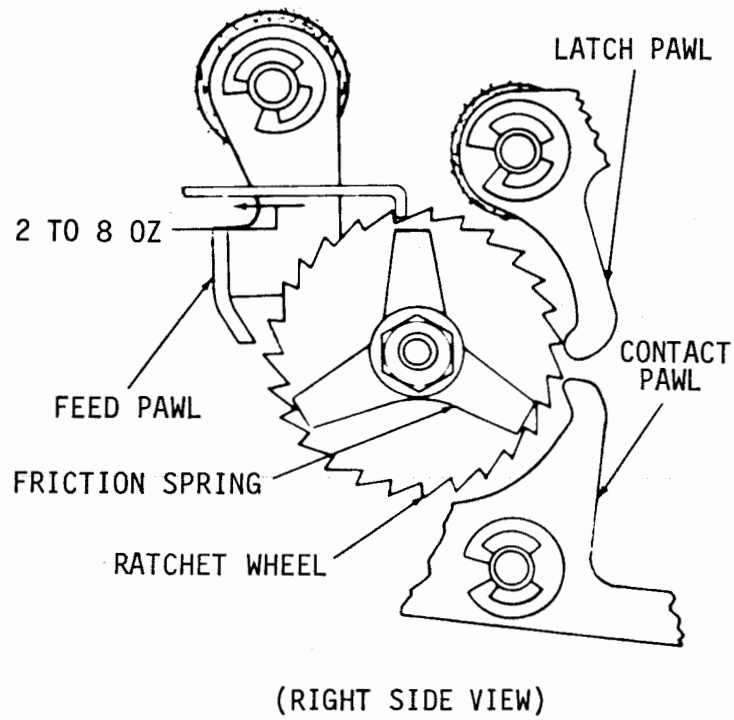

Figure 6-259. Ratchet Wheel Tension
- (1) Refer to figure 6-259.
- (2) With all pawls held away, use spring scale to measure force required to move ratchet wheel. This should require from 2 ounces (minimum) to 8 ounces (maximum).
- (3) To adjust, remove and bend friction springs.